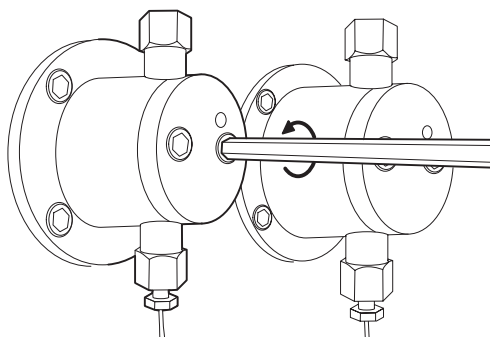

Figure 4-1 Unscrewing the Pump Head Mounting Bolts
8. Use the 5/32-inch Allen wrench to remove the two pump head assembly mounting bolts. Loosen the bolts 1/2-turn at a time for the first two turns (Figure 4-1).